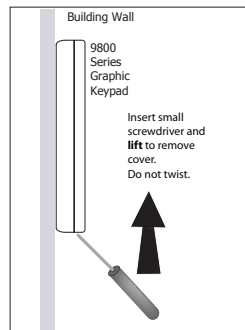

Figure 8: Removing the Keypad Cover
1. Insert a flat screwdriver into one of the slots on the bottom of the keypad and gently lift the screwdriver handle toward you while pulling the halves apart. Repeat with the other slot. See Figure 8.